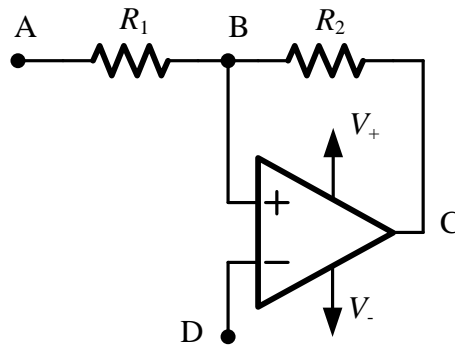

Fig. 11.1 Schmitt-trigger bistable multivibrator
Fig. 11.1 shows the positive-feedback Schmitt-Trigger Bistable Multivibrator. It is operated typically with either of node A or D as input, while the other is connected to a reference voltage. Because of the positive feedback, the output voltage (C) is